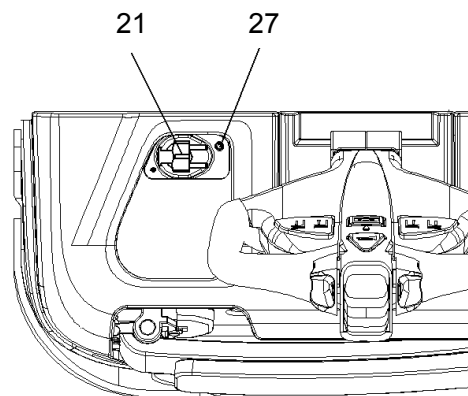

Fig. 16: LED status
Park the truck at a dedicated secured area with a deidcated power supply. Lower the forks and remove the load. Switch the truck off and pull out spring cord (21) and connect to the power socket. The charger starts charging the battery. Battery is fully charged when green light is on (Fig. 16, 27), and charger goes into a floating mode to prevent the battery against damages. When charging is finished, disconnect the connector from the socket and place it in the designated pocket.